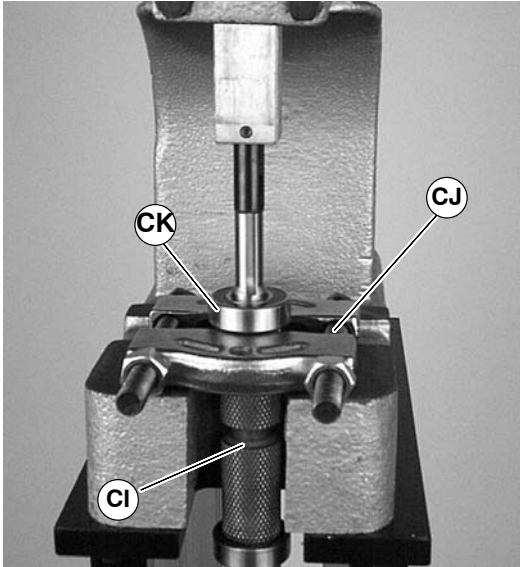

Figure 51
1. Locate drive pulley (CI of Figure 51) in a standard bearing separator (CJ) as shown.